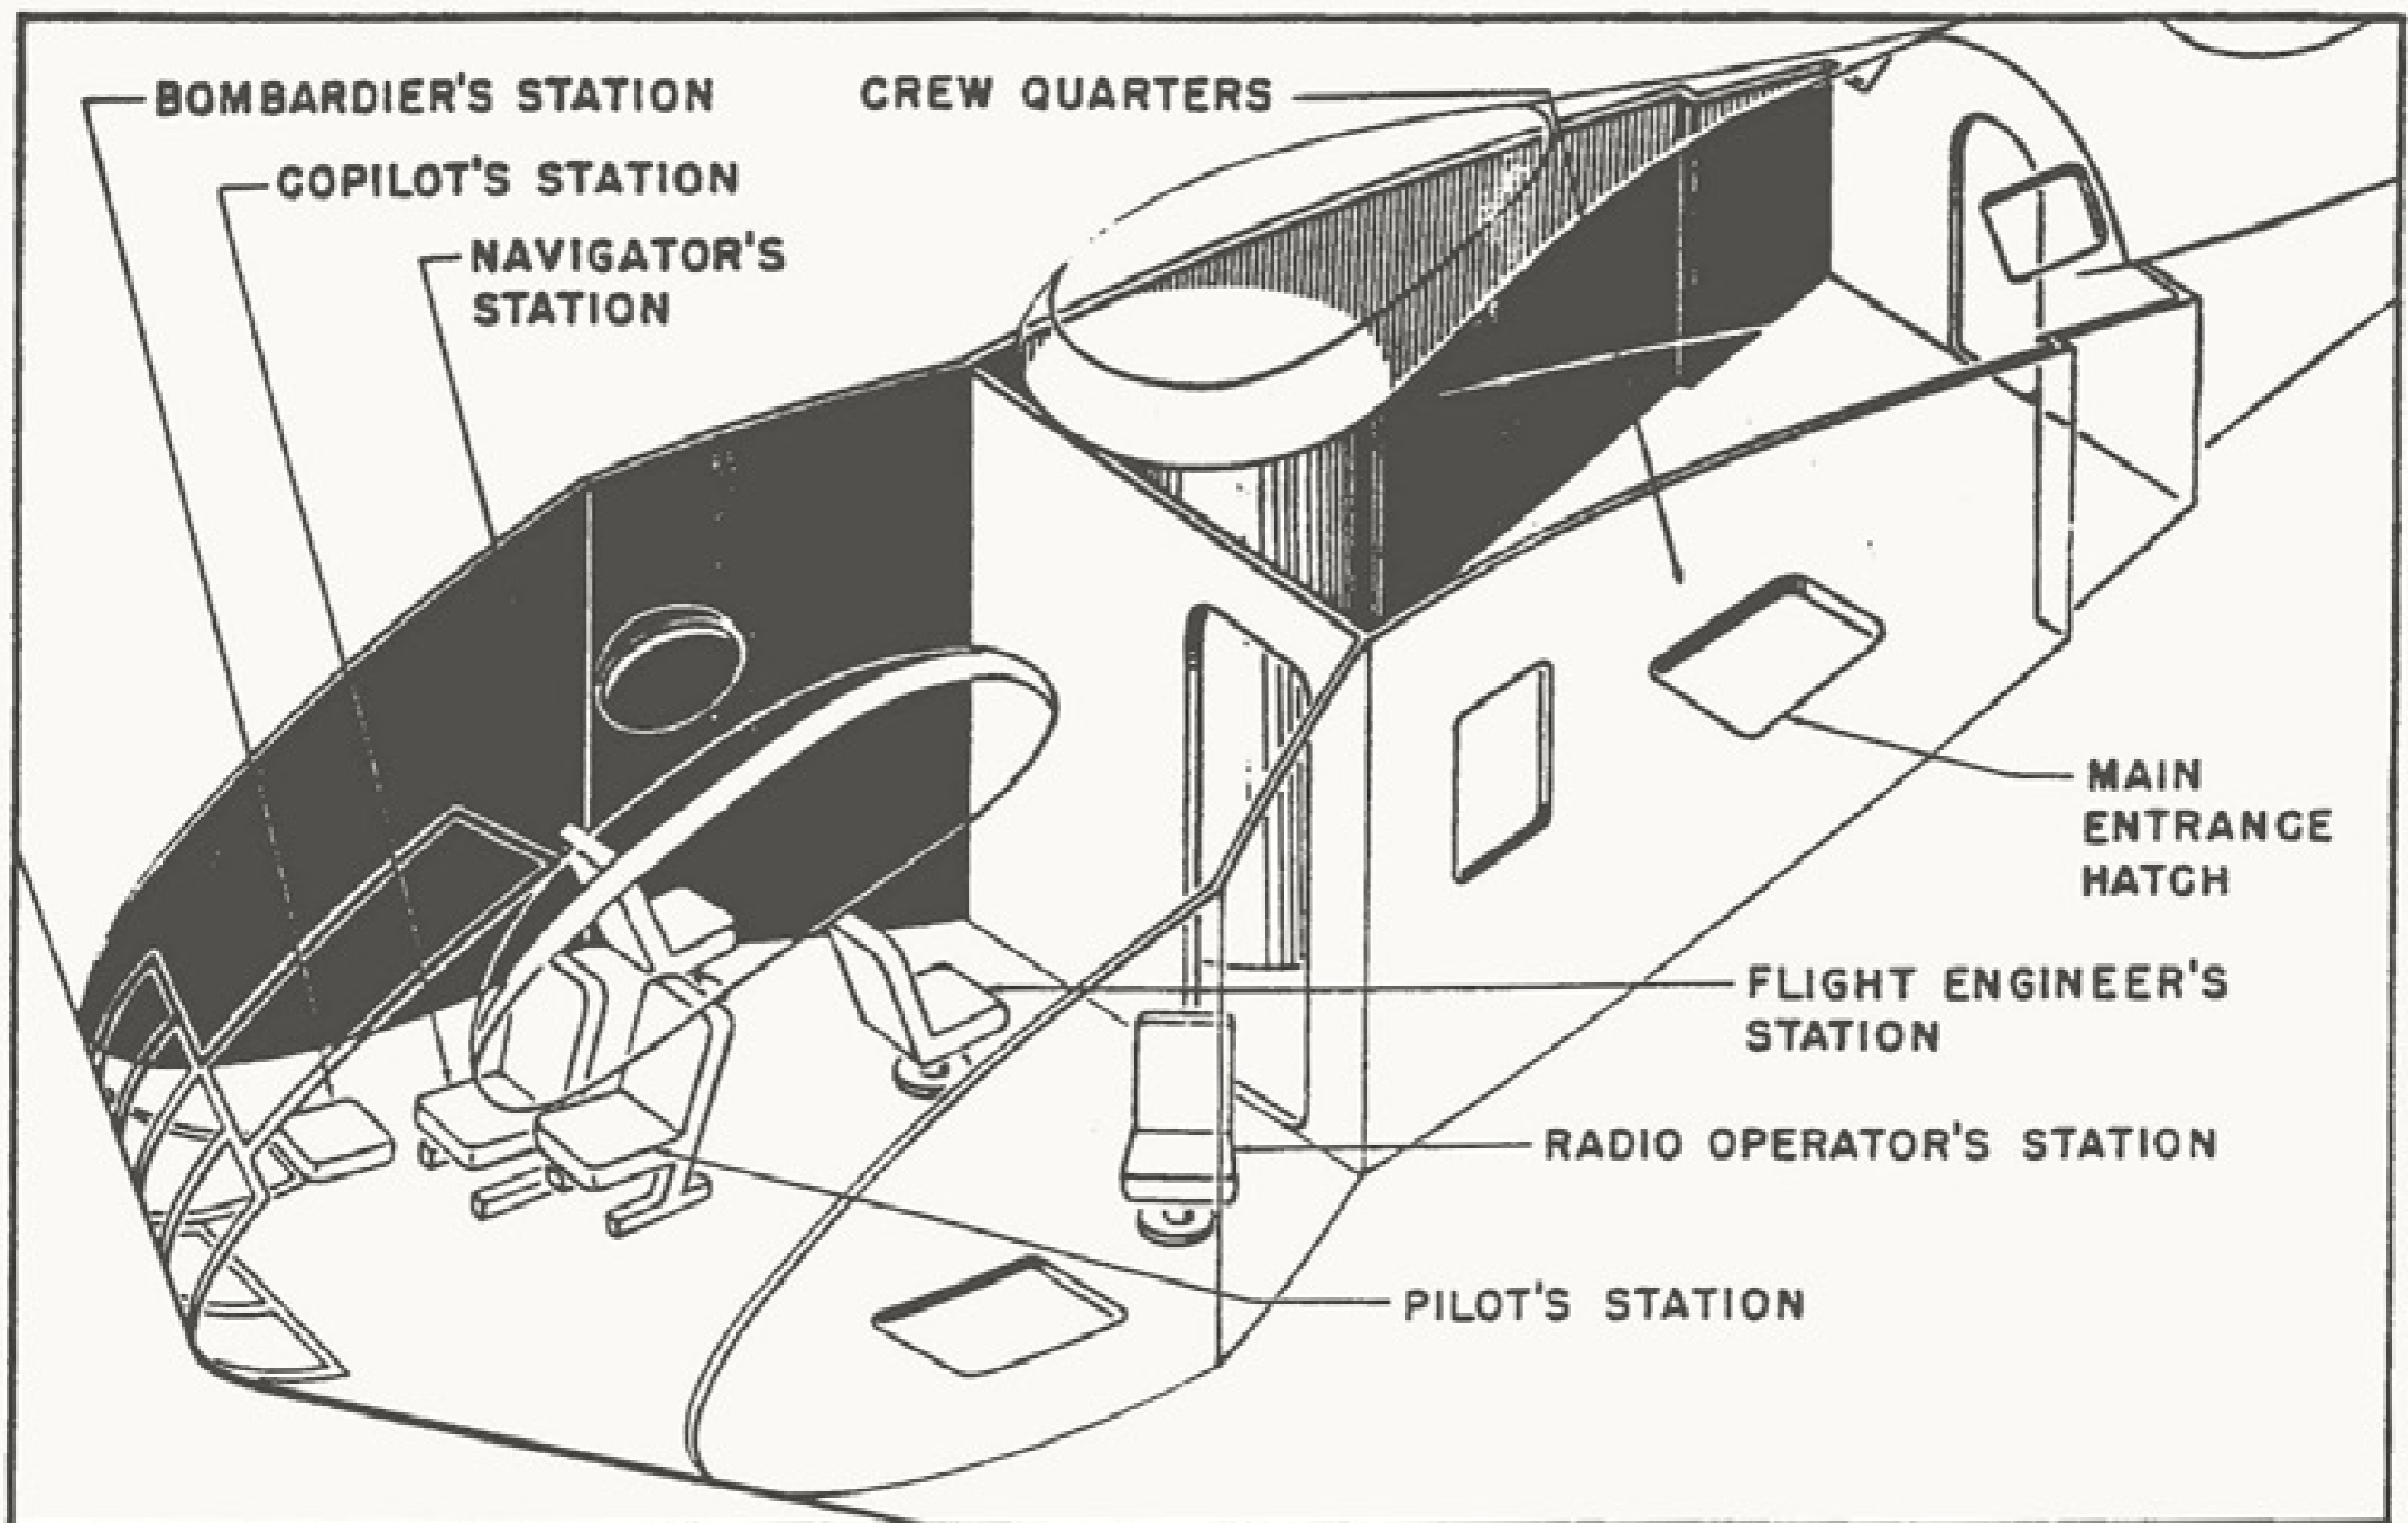

Figure 2. Crew Stations
1. GENERAL.- The Northrop XB-35 heavy bombardment airplane, serial number AF42-13603, is a flying wing of the pusher type, powered by four R-4360 turbosupercharged engines; each driving an eight-bladed, dual rotating, reversible pitch propeller. It has a wing span of 172 feet, an overall length of 52 feet, and an overall height of 20 feet. The weight empty is approximately 84,000 pounds and the maximum gross weight is approximately 140,000 pounds. This airplane has not been equipped with armament but dummy fairings have been installed to simulate gun turrets and sighting stations. Eight bomb bays are incorporated in the wings. The crew nacelle is located at the center of the wing and provisions have been made to accommodate a crew of six; pilot, copilot, flight engineer, navigator, radio operator, and bombardier. (See figure 2.)